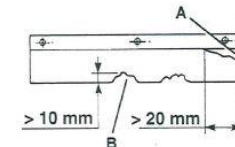

Figure 15
4. Check the integrity of the polyurethane side guards. If there is a cut (A) larger than 20 mm or a crack (B) larger than 10mm, replace the baffle.
5. Check that the polyurethane side shield is within 0 to 3 mm (A, Figure15).
- If there is a cut larger than 20 mm (A, B Figure 15) or a crack larger than 10 mm, replace the baffle.